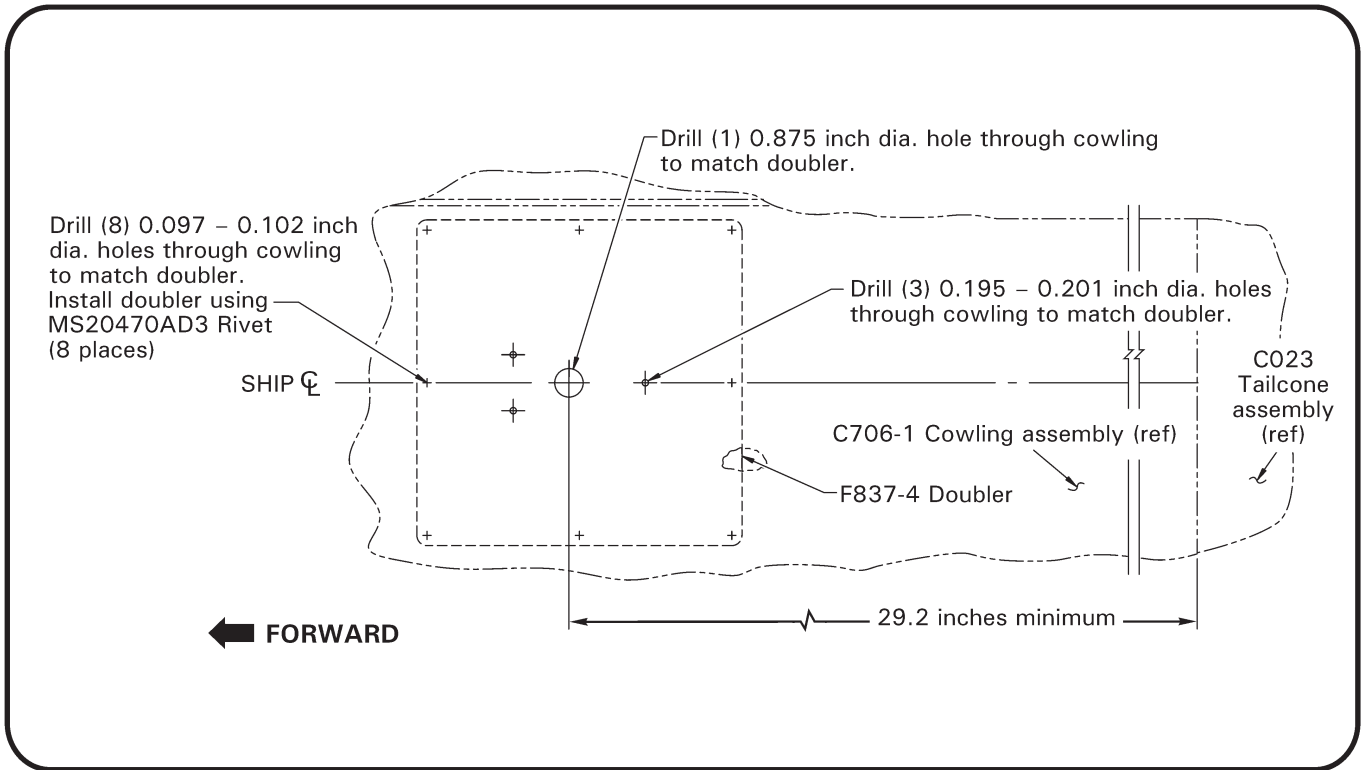

FIGURE 4A
For new installation of ELT: Refer to Figure 4A. Drill thru doubler's (8) pilot holes with #40 drill, securing doubler to cowling with a sheet metal fastener as each hole is drilled.